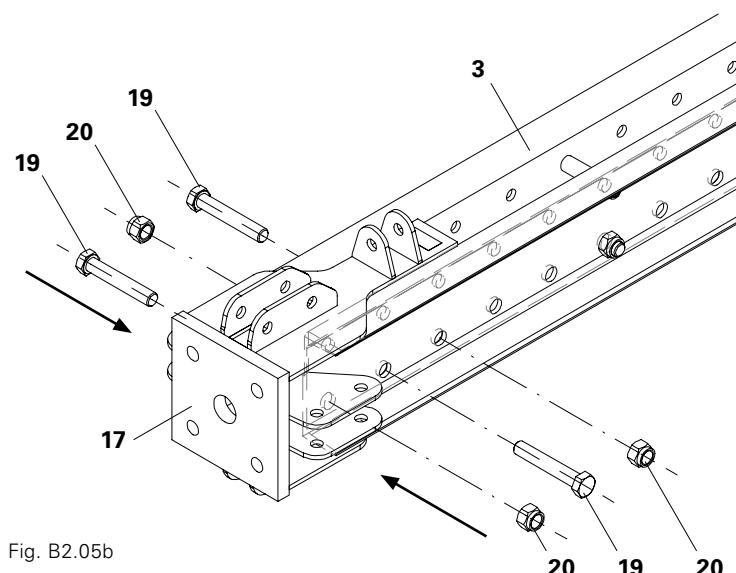
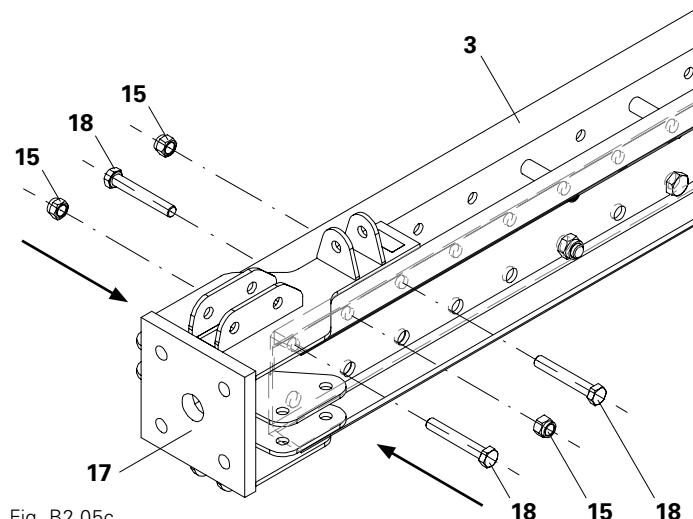

Fig. B2.05b
Fig. B2.05c
1. Insert Prop Base VST 48 (17) into the Climbing Rail RCS 248 (3)\* on the side with the five free rows of holes.
2. Insert 1 x Bolt ISO 4014 M20 (18) from the left-hand side.
3. Insert 2 x Bolts ISO 4014 M20 (18) from the right-hand side.
4. Attach Nuts ISO 7042 M20 (15) and tighten the connections. (Fig. B2.05b)
5. Insert 1 x Bolt ISO 4014 M24 (19) from the right-hand side.
6. Insert 2 x Bolts ISO 4014 M24 (19) from the left-hand side.
7. Attach Nuts ISO 7042 M24 (20) and tighten the connections. (Fig. B2.05c)